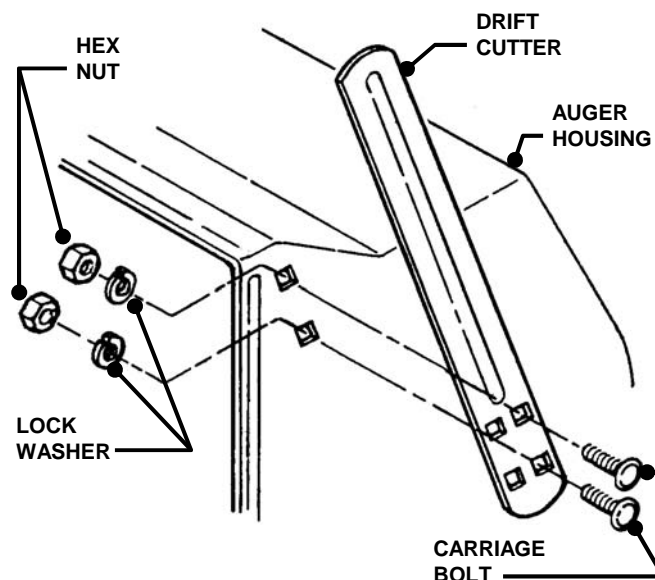

FIGURE 8
STEP 8: DRIFT CUTTER Remove drift cutters from the side of the auger housing and attach as shown. Note: Bolts are inserted into rear holes of drift cutter. Tighten nuts securely. See Figure 8.